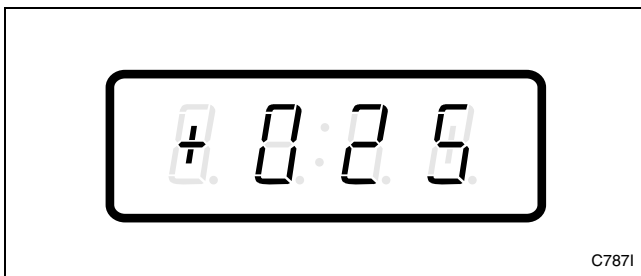

Figure 106
3. Press the DELICATES (+) or the COLD (-) keypad to scroll through the programmable options until “+025” appears in the VFD. Refer to *Figure 106*.